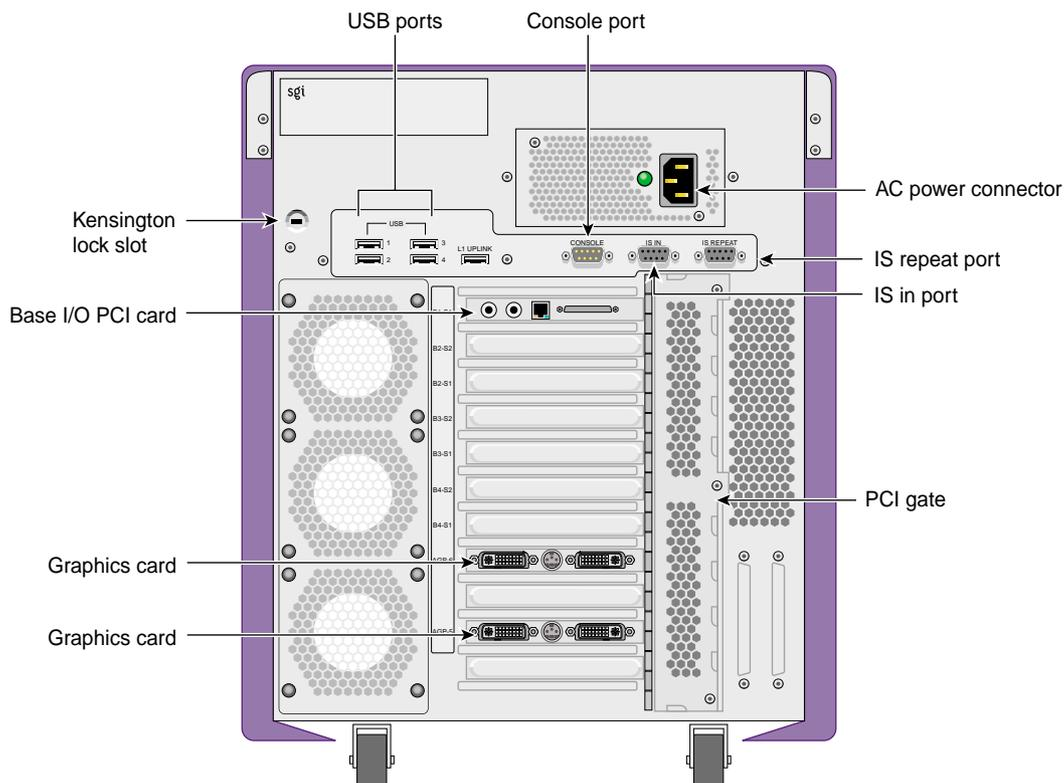

Figure 1-4 System Rear Panel Items
- Figure 1-4 on page 7 shows the rear panel items on the system.